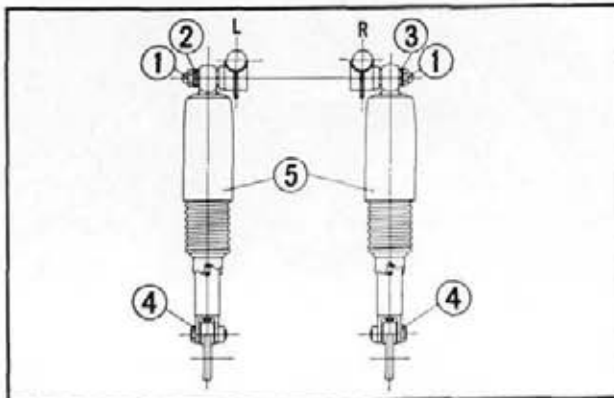

Fig. 12-6 ① 10mm cap nuts ④ 10mm bolts
**Note:** After installing the cushion, check the alignment of the right and left cushion and also the alignment of the cushion mounting bolt for both right and left sides (Fig. 12-6).